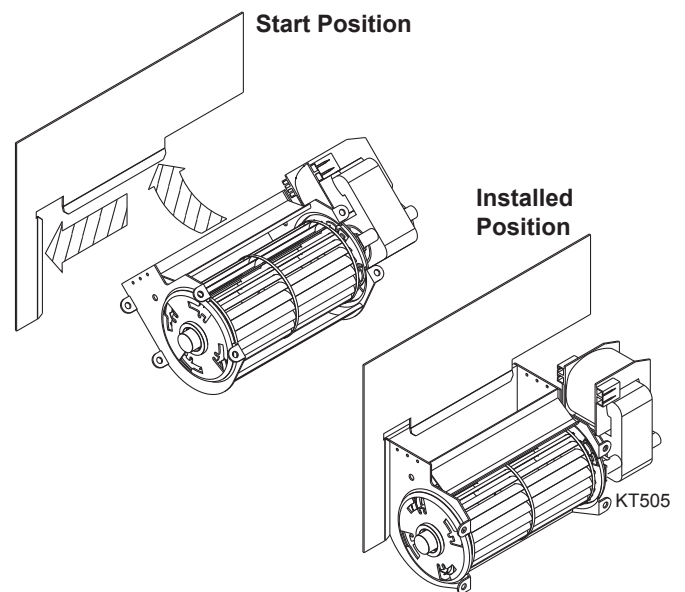

Figure 52 -
10. Turn blowers with discharge vent facing up. Slide the discharge vent so that it is facing up. Slip discharge vent flange under the flange bracket flush against the sidewall. Slide blower side tabs over into side flange. *Figure 52*. The blower is now locked in place.